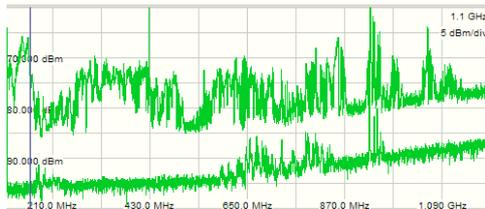

Figure 13: UHF Frequency sweep of the spectrum inside of the transformer and the measurement filter used shown as grey bar at 159.5 MHz
The UHF measurement was performed by using the narrowband acquisition method with a bandwidth of 1.5 MHz. The center frequency of 159.5 MHz was chosen based on the evaluation of the frequency sweep shown in Figure 13. The highest signal energy of the UHF spectrum is shown as the upper line representing the pulses - including the PD - while the sinusoidal or continuous wave (CW) disturbances are shown in the lower curve. The measurement frequency can now be tuned into an area showing a large distance between both lines. This method turned out as being very effective to optimize the signal-to-noise ratio during a UHF PD measurement.